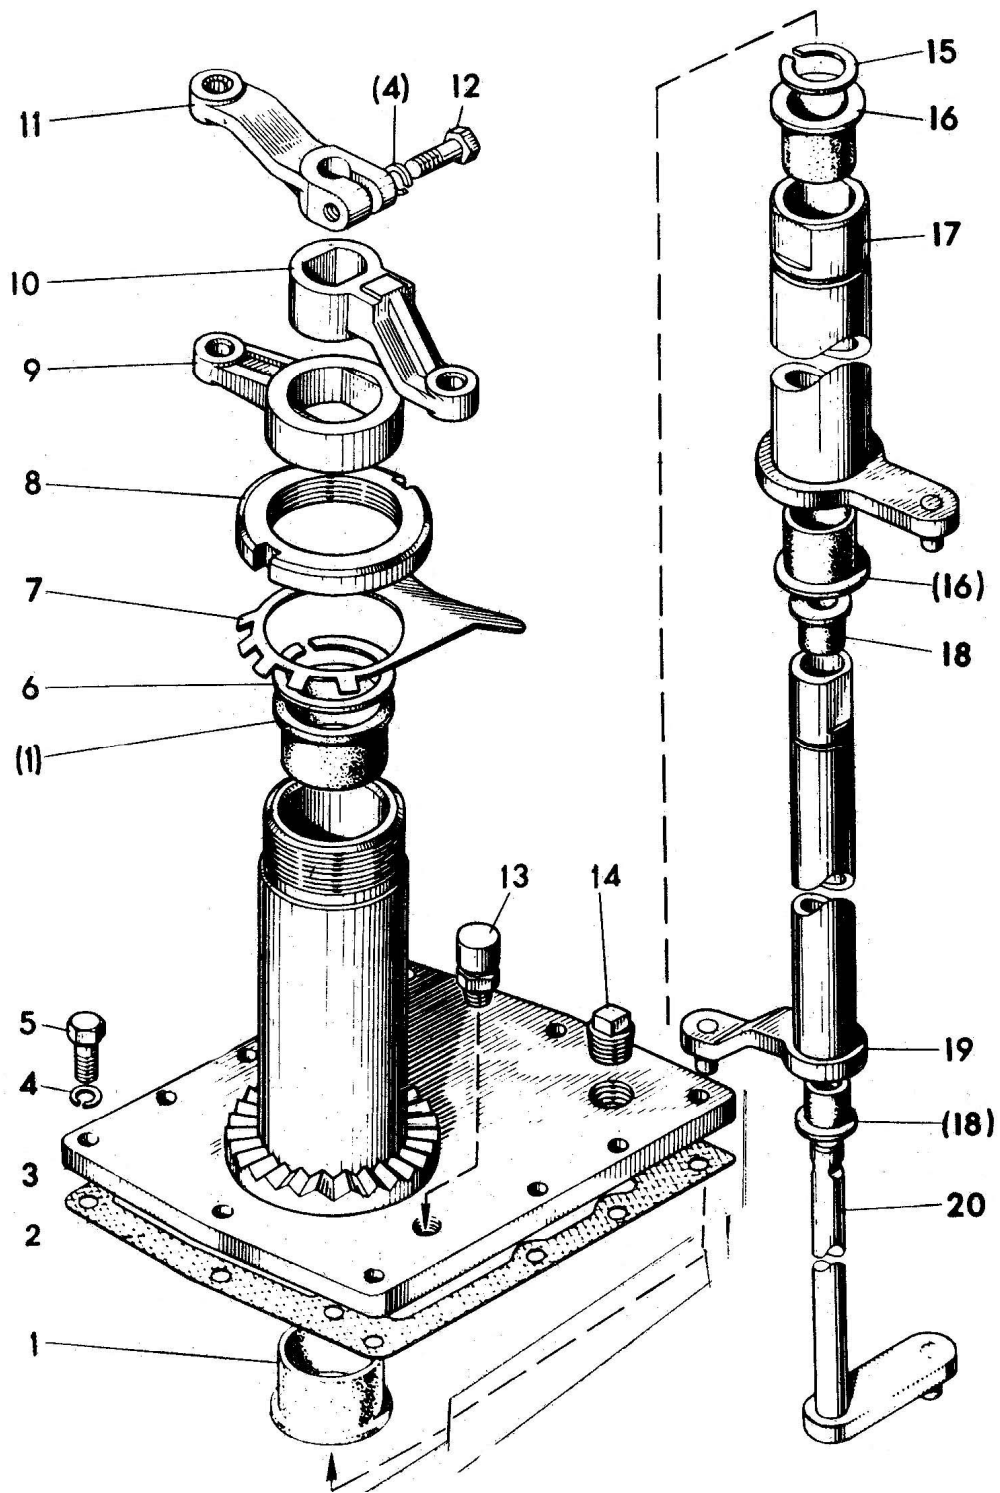

Figure 5 – Gearshift mechanism
**05-1702. Gearshift mechanism (figure 5)**